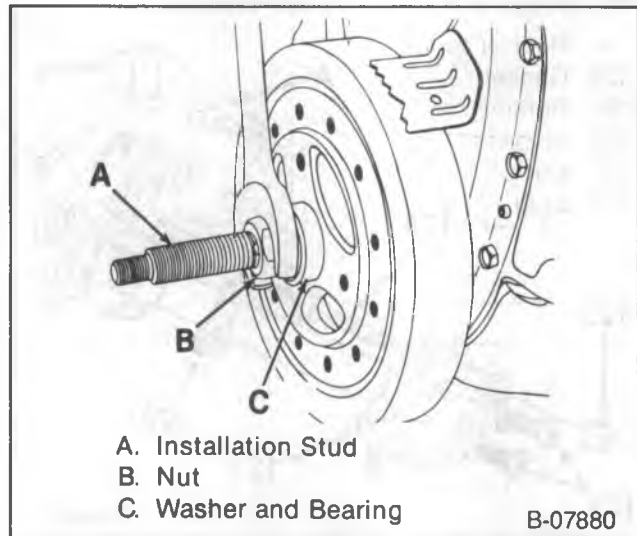

Figure 61—Installing the Torsional Damper
↔ Install or Connect (Figure 61)
2. Stud (item A, figure 61) to the crankshaft. Thread the stud fully into the tapped hole in the crankshaft.
4. Bearing, washer and nut (figure 61).